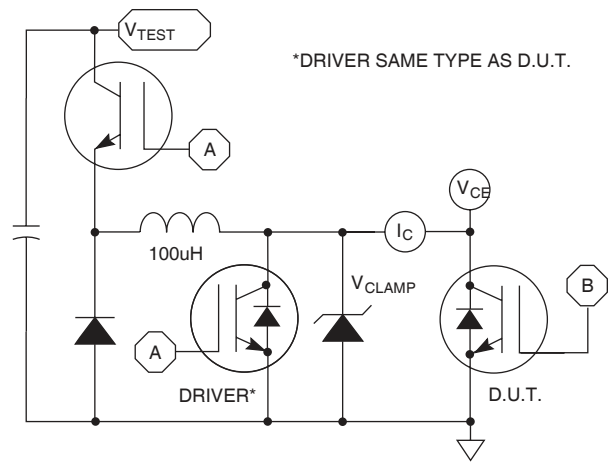

Figure 24, EON1 Test Circuit
- ① Repetitive Rating: Pulse width limited by maximum junction temperature.
- ② For Combi devices, I_{ces} includes both IGBT and FRED leakages
- ③ See MIL-STD-750 Method 3471.
- ④ E_{on1} is the clamped inductive turn-on-energy of the IGBT only, without the effect of a commutating diode reverse recovery current adding to the IGBT turn-on loss. (See Figure 24.)